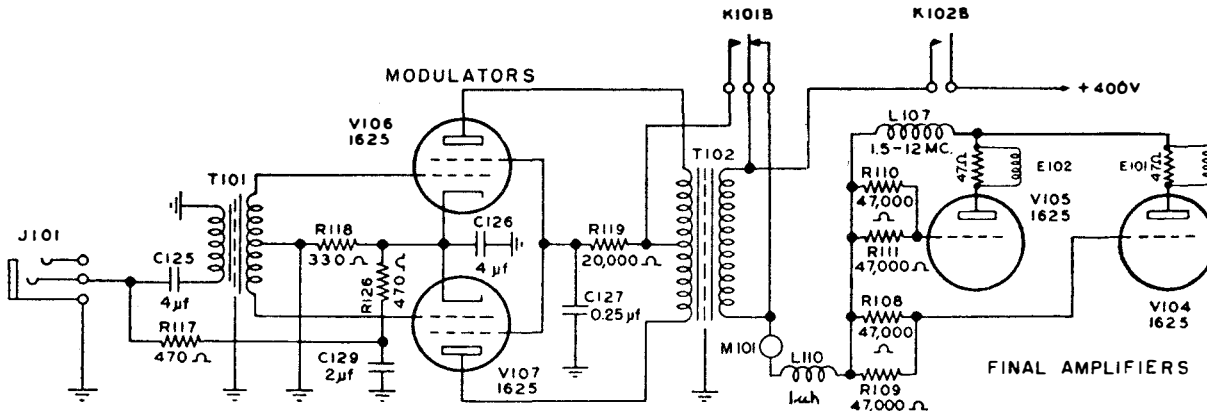

Figure 2-9 Transmitter Modulator Circuit
d. MODULATION SYSTEM. (See figure 2-9.)—The modulation system employs two type 1625 tubes V106 and V107 in a push-pull, class-B modulator. The output of a single-button carbon microphone MI-801 is coupled to the grids of the modulator tubes by the input transformer T101. Microphone current is obtained from the cathode circuit of the modulators. Modulator bias is obtained by the use of a cathode resistor R118. Screen voltage is obtained through dropping resistor R119.